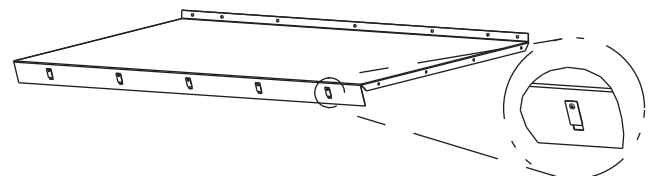

Fig. 22 — Top Hood with Speed Clips
4. Attach speed clips (provided) to hood top. Engagement section of the clip faces inside hood. See Fig. 22.